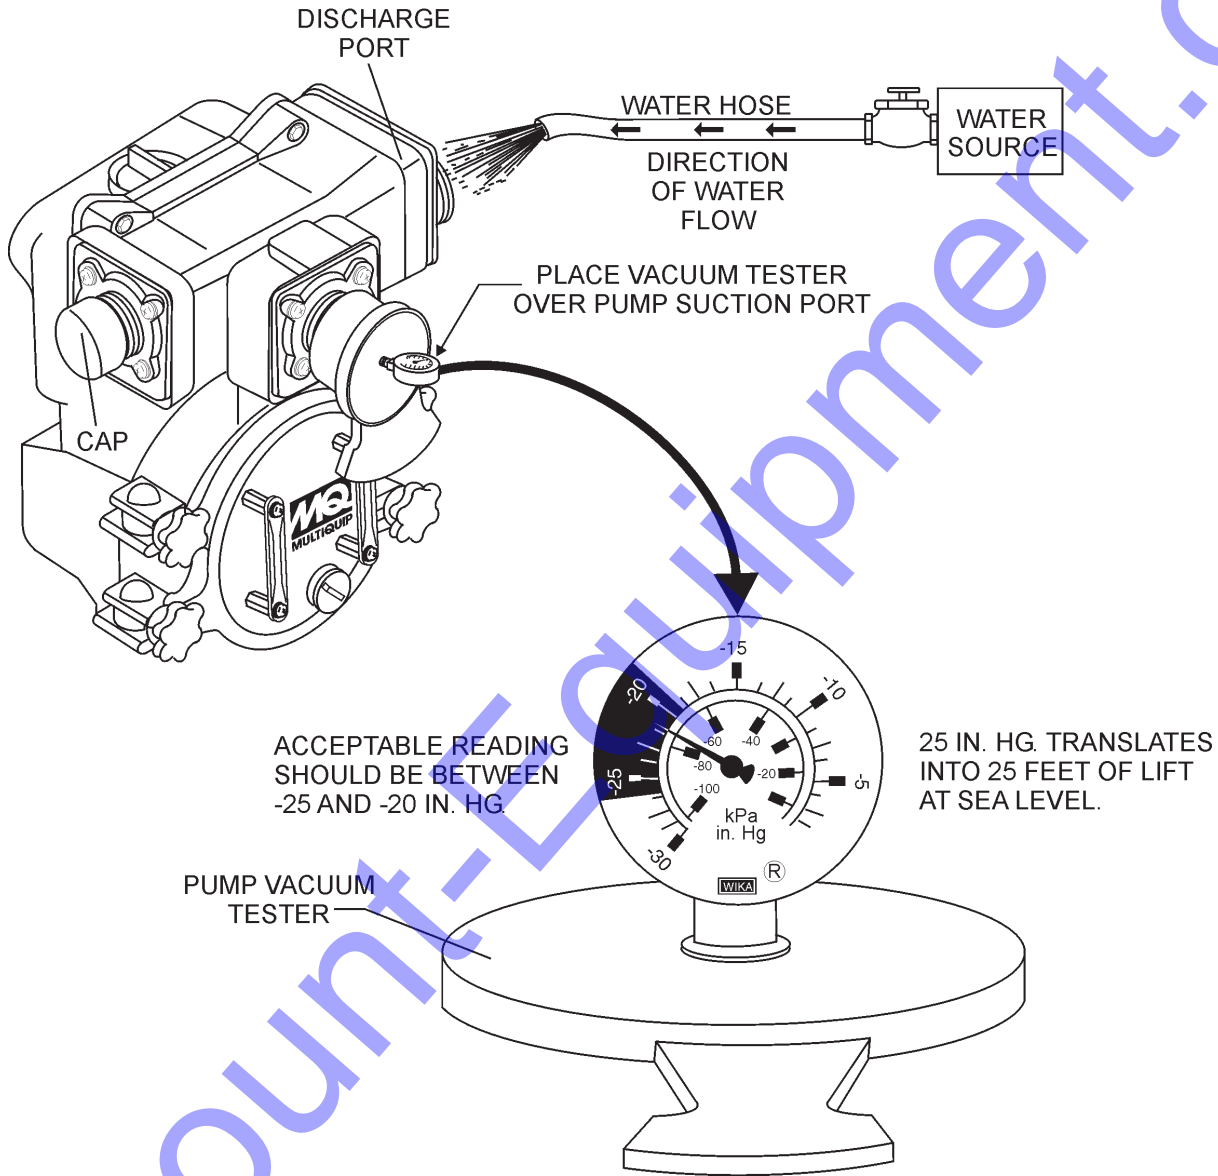

Figure 17. Pump Vacuum Tester
3. As shown in Figure 17 (next page), place a water hose inside the discharge opening of the pump, and turn on the water. This flow of water into the discharge opening will **prevent** the pump from running dry.